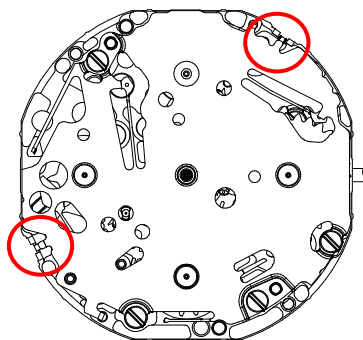

Fig.1 (example VH63A)
- There are two hooks on the support for dial side parts. (Fig.1)